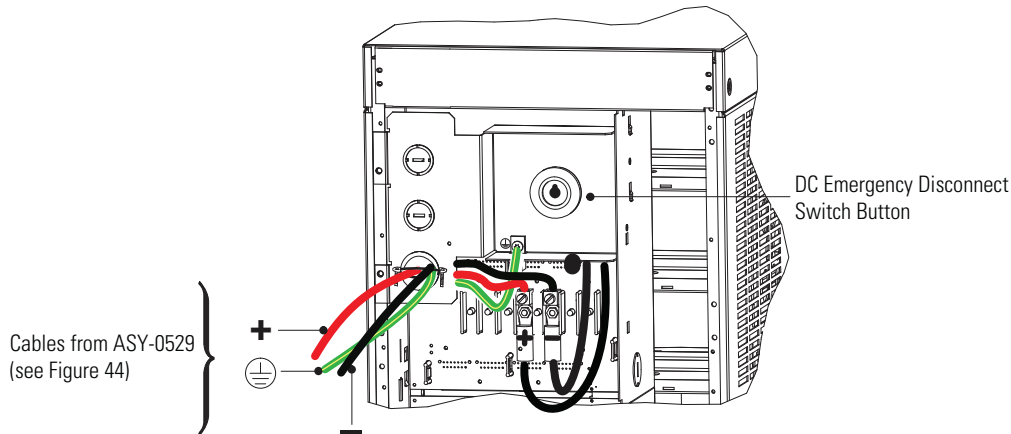

Figure 46. Battery Cable Installed in Battery Cabinet
1. For the external battery cabinet entrance panel, attach the DC wires from the UPS (or previous battery cabinet) as shown in Figure 46. Installations with conduit will use a conduit fitting instead of the wire clamp shown.
2. Secure the **+**, the **-**, and the **⊖** conductors to the proper compression lugs on the battery cabinet backplane as shown in Figure 46. Torque all three compression lugs to 8.5–9.6 Nm (75–85 lb in).